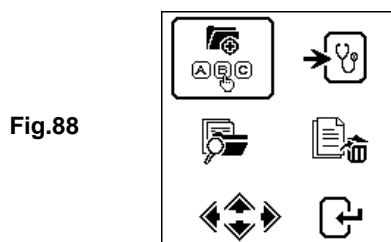

Fig.88
1. Go to the main Menu (Fig.88), select View Test Results (Fig.89) as shown below: